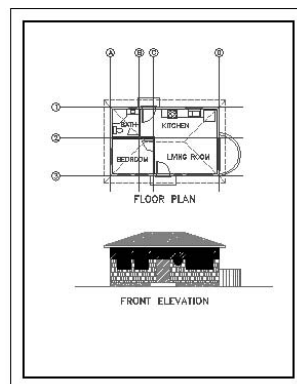

FIGURE 10.23: The drawing with its border
11. Zoom to Extents, and then zoom out a little to create a view in which the drawing with its border nearly fills the screen (see Figure 10.23). The outer rectangle represents the edge of the sheet of paper, while the thicker, inner rectangle is the drawing's border.